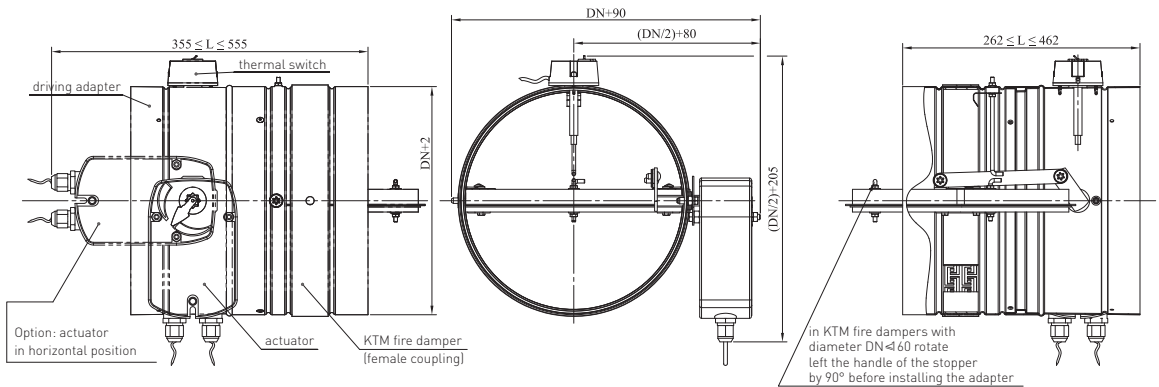

Figure 3. KTM-E (ME) fire damper (female coupling) with driving adapter and actuator.
Fire dampers KTM-E(ME) are made through combining basic version of the KTM type fire damper (with return spring but with no thermal fuse and limit switches) together with E type driving adapter (fig. 3. and 4.). The actuating mechanism in the KTM-E(ME) type fire dampers is an BLF series electric actuator by Belimo with power supply of 24 [V] AC/DC or 230 [V] AC. Automatic closing of the flap is realized by a thermal electric fuse with a  $72\pm 5^{\circ}\text{C}$  nominal reaction temperature (thermal electric fuse reaction causes power loss to the electric actuator). Automatic closing of the flap of the KTM-E(ME) type fire damper is realized by cutting off the power supply (with no power supplied to the electric actuator, the return spring, while returning to the free position, moves the fire damper flap to the fully closed position).